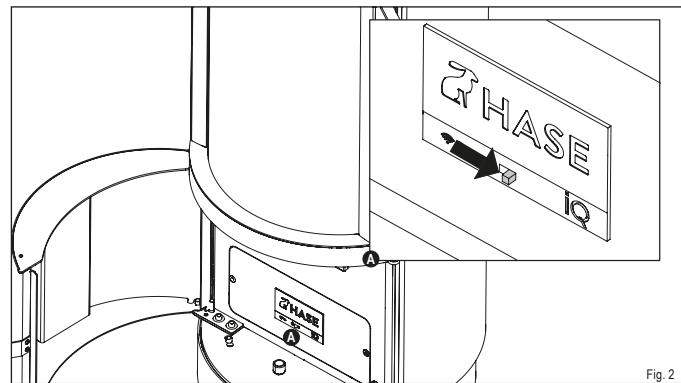

Fig. 2
- Set the switch on the control panel to "On" (Fig. 2). When the power light lights up blue, the controller is ready.